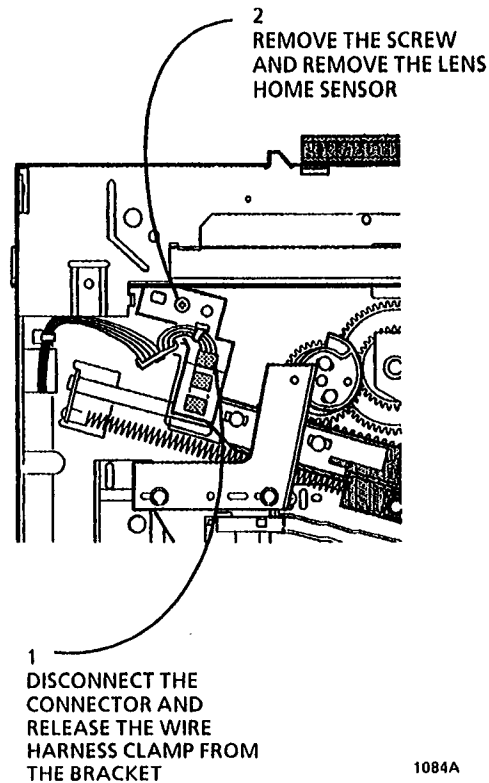

Figure 1. Removing the Lens Home Sensor
4. (Figure 1): Remove the Lens Home Sensor.